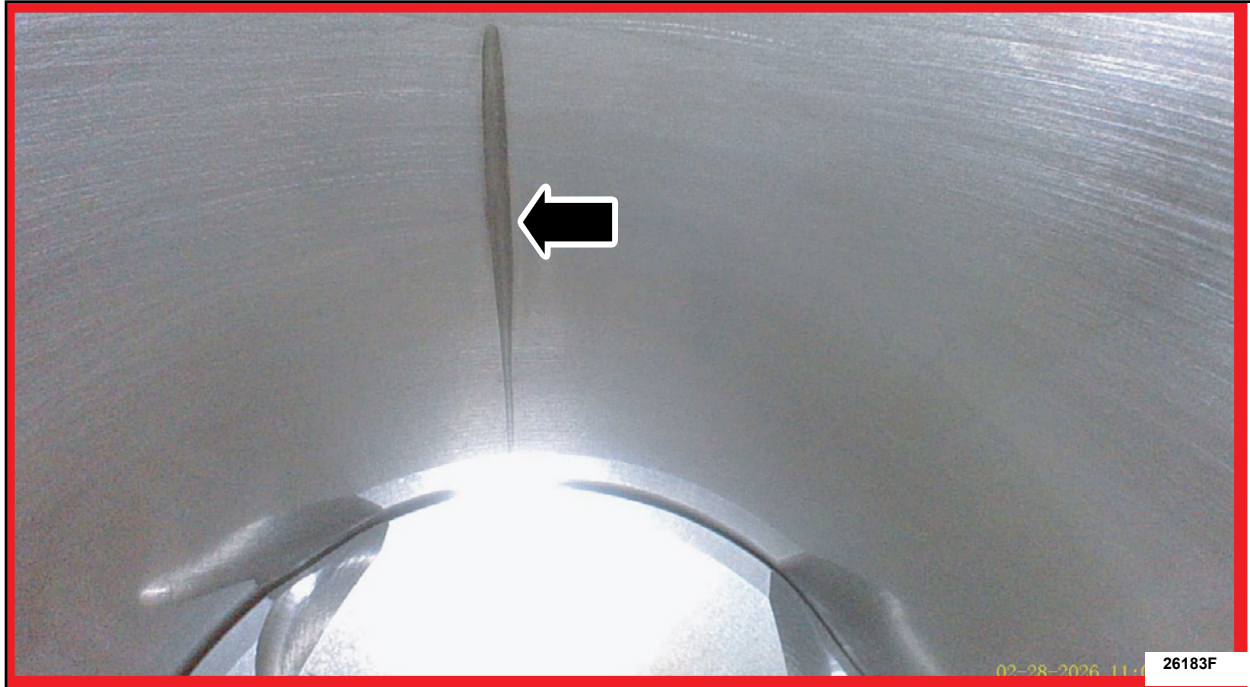

FIGURE 8
8. Using a borescope, inspect cylinder 1 and 4 for signs of vertical scoring. See Figure 8.
11. Do any of the cylinders have vertical scoring present on the cylinder wall? See Figure 8.